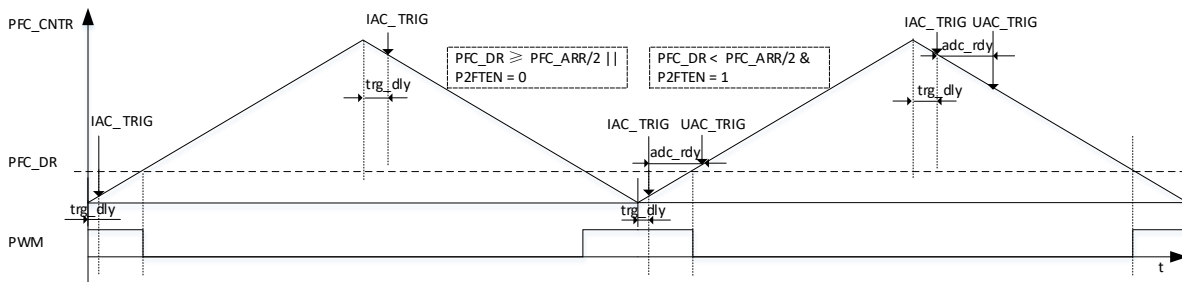

Figure 12-6 Diagram of PWM Output and IAC/UAC Sampling
- The sampling point is determined according to  $\text{PFC\_CR2}[\text{P2FTEN}]$  and  $\text{PFC\_DR}$  (as shown in Figure 12-6). If  $\text{PFC\_CR2}[\text{P2FTEN}] = 0$  and  $\text{PFC\_DR} < \text{PFC\_ARR}/2$ , sampling is triggered when  $\text{PFC\_CNTR}$  reaches the underflow point. If  $\text{PFC\_CR2}[\text{P2FTEN}] = 1$  or  $\text{PFC\_DR} \geq \text{PFC\_ARR}/2$ , sampling is triggered when  $\text{PFC\_CNTR}$  reaches the overflow point. The time delay for sampling is configurable by  $\text{PFC\_TRGDLY}$ . The overflow point can be set at  $\text{PFC\_TRGDLY} * 8$ , and the underflow point at  $(\text{PFC\_ARR} - \text{PFC\_TRGDLY} * 8)$ .